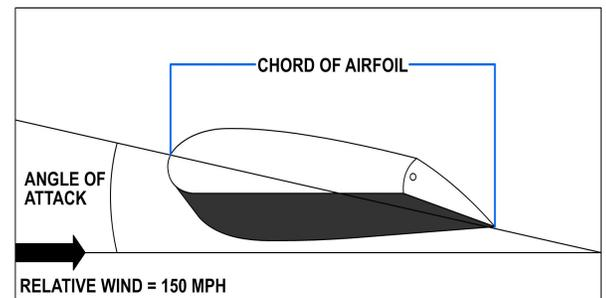

Figure 3-4 — Angle of attack.
- Relative wind —the direction of the airstream in relation to the airfoil (*Figure 3-4*).
- Angle of attack —the angle between the chord line and the relative wind (*Figure 3-4*).